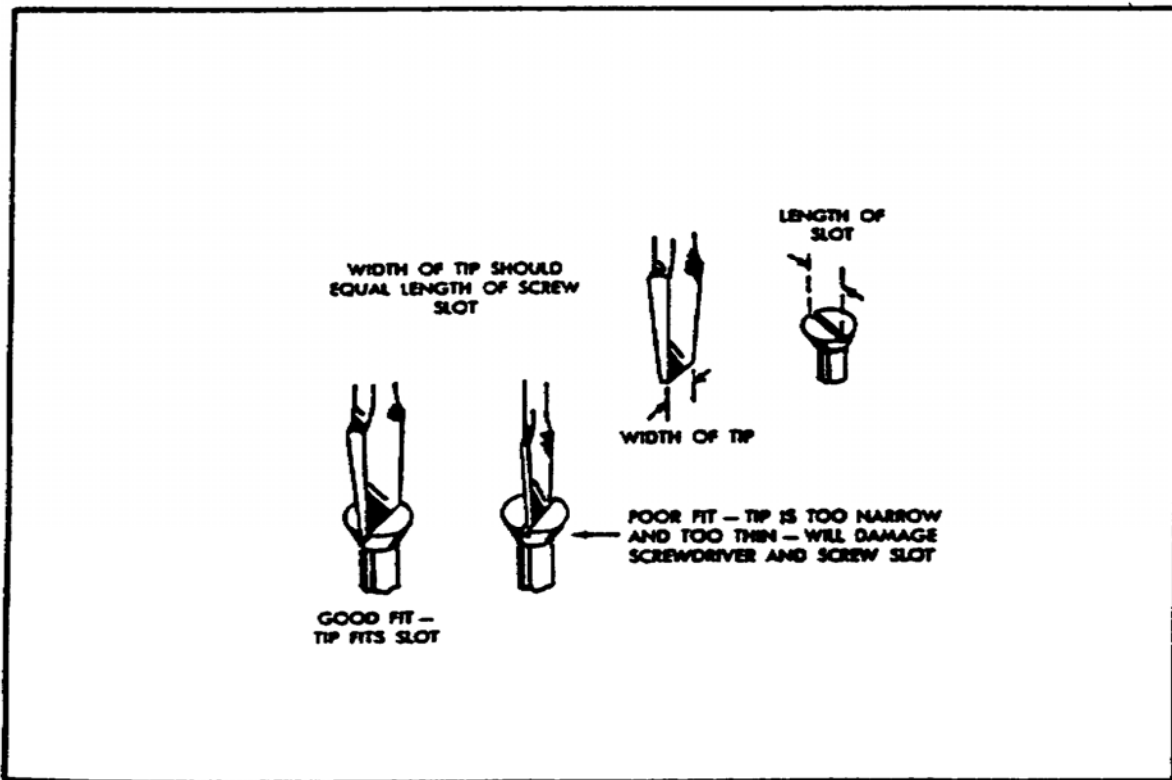
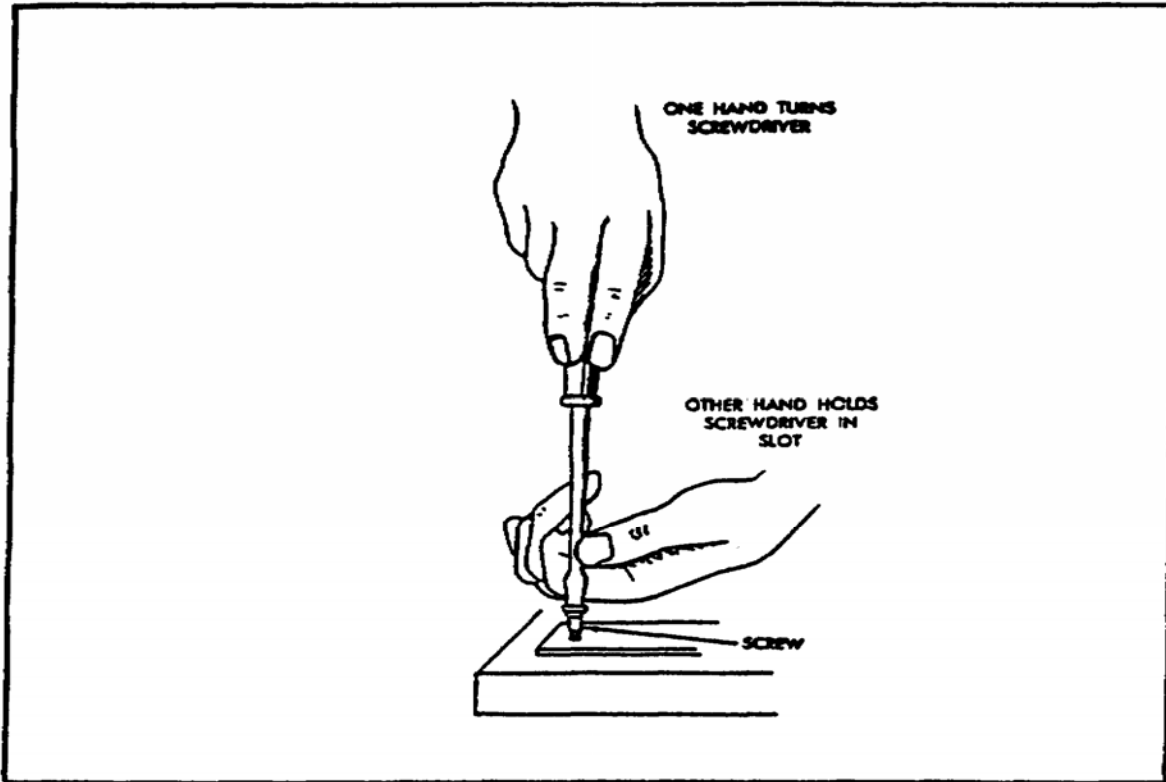

FIGURE 12. PROPER BLADE FOR SPECIFIC SCREW.
FIGURE 13. HOLDING SCREWDRIVER PROPERLY.
(1) *Driving Screws.* Use the longest screwdriver available which is convenient for the work. The width of the tip should equal the length of the screw slot and the tip must be thick enough to fit the width of the screw slot (figure 12). Hold the handle firmly in one hand with the head of the handle against the palm and grasp the handle near the ferrule with your thumb and fingers (figure 13). Hold the screwdriver in line with the axis of the screw and center the tip in the screw slot. To drive the screw in, press down with your palm and turn the screwdriver clockwise (to the right). When taking a fresh grip on the handle, steady the tip and keep it pressed in the screw slot with your other hand. Relax your other hand when you are ready to turn the screwdriver again. To drive screws easier, rub a little soap into the threads of a wood screw and put a drop of oil or a little graphite on a machine screw. Doing this will also minimize the chance of rust forming on the screws and will make them easier to remove.